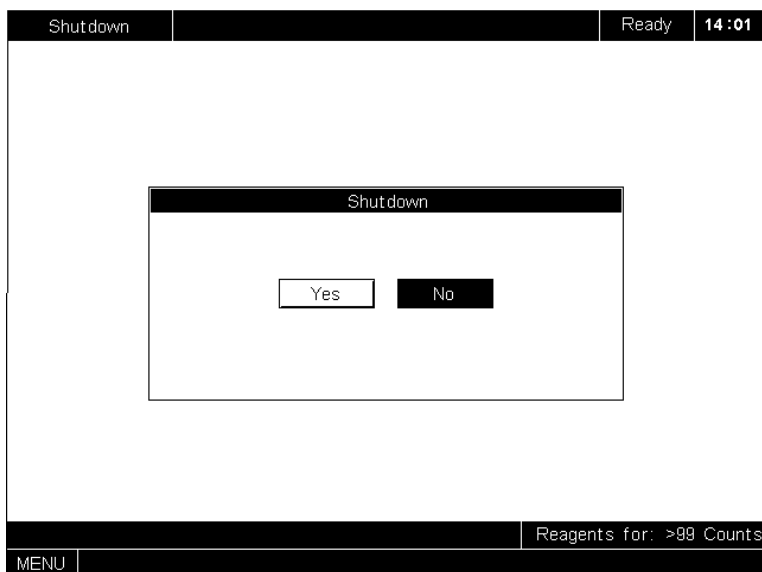

Figure 3-17 Shutdown dialog box
2. Press [ENTER] to enter the Shutdown dialog box., as Figure 3-17 shows.